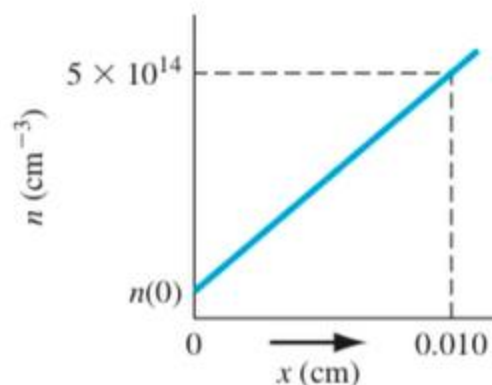

Figure P5.29 | Figure for Problem 5.29.
- 5.29** Consider a sample of silicon at $T = 300$ K. Assume that the electron concentration varies linearly with distance, as shown in Figure P5.29. The diffusion current density is found to be $J_n = 0.19$ A/cm². If the electron diffusion coefficient is $D_n = 25$ cm²/s, determine the electron concentration at $x = 0$.